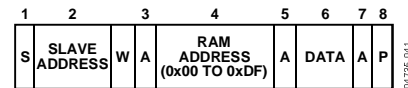

Figure 40. Single Byte Write to RAM
- To write a single byte of data to RAM. In this case, the command byte is the RAM address from 0x00 to 0xDF and the only data byte is the actual data, as shown in Figure 40.